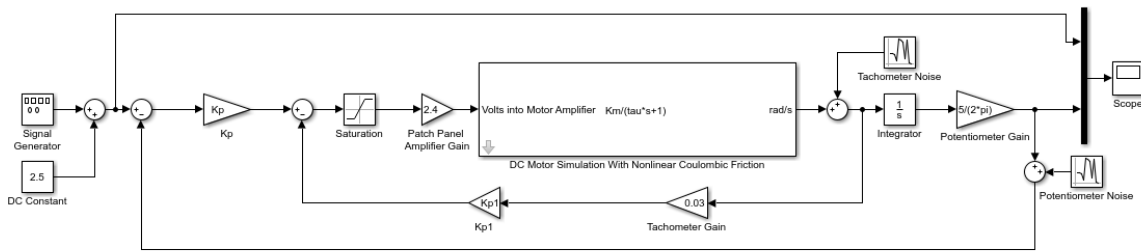

Figure 10: Proportional and Speed Controller Simulink Block Diagram
Instead of differentiating the error to add a derivative term in the control law, you will use the tachometer feedback times a gain as the derivative term in your control. See Figure 10.
- Connect the blocks to match Figure 10.